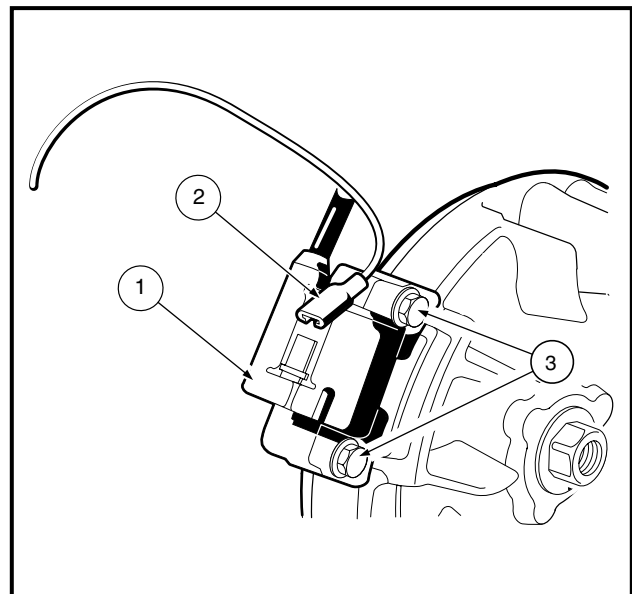

Figure 2-56 Ignition Coil
2. Disconnect the ignition coil (1) from its primary lead wire at the connector (2). Remove the two bolts (3) and remove the ignition coil (**Figure 2-56, Page 2-27**).